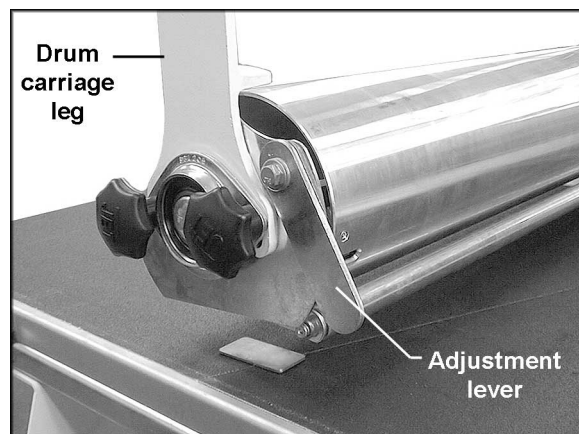

Figure 29
1. Raise drum adjustment lever (Figure 29) so that it just engages the side of drum carriage leg.